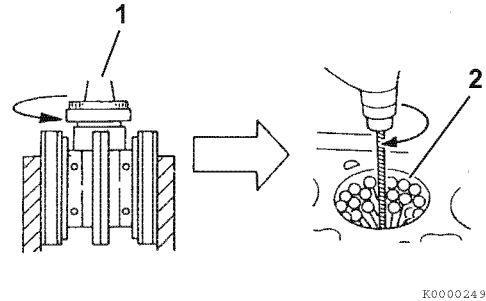

Figure 6-80
2. **Honing** - Minor cylinder imperfections may be corrected by using a rigid cylinder hone (1, **Figure 6-80**). Be sure not to exceed the maximum cylinder bore specification.
Deglazing - A used cylinder that did not require boring or honing, should always be deglazed with a ball hone (2, **Figure 6-80**) before installing new piston rings. This will properly prepare the cylinder surface to allow new piston rings to seat properly.
- Use a 300-grit hone at 300 - 1200 min⁻¹ (rpm) (**Figure 6-80**).